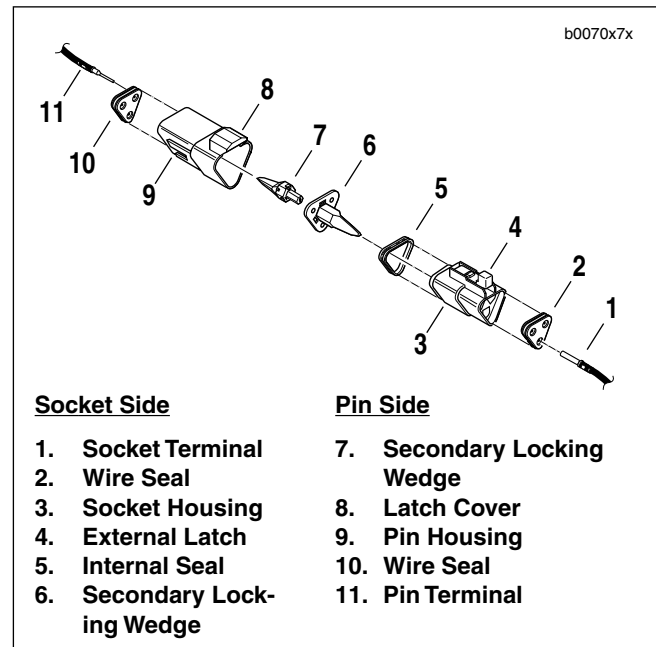

Figure 7-74. 3-Pin Connector
1. See Figure 7-74. Remove the secondary locking wedge (6). Insert the blade of a small screwdriver between the socket housing and locking wedge inline with the groove (inline with the pin holes if the groove is absent). Turn the screwdriver 90° to pop the wedge up.
2. Gently depress terminal latches inside socket housing (3) and back out socket terminals (1) through holes in rear wire seal (2).
3. Fit rear wire seal (2) into back of socket housing, if removed. Grasp socket terminal approximately 1.0 in. (25.4 mm) behind the contact barrel. Gently push sockets through holes in wire seal into their respective chambers. Feed socket into chamber until it "clicks" in place. Verify that socket will not back out of chamber; a slight tug on the wire will confirm that it is properly locked in place.
4. Install internal seal (5) on lip of socket housing, if removed. Insert tapered end of secondary locking wedge (6) into socket housing and press down until it snaps in place. The wedge fits into the center groove within the socket housing and holds the terminal latches tightly closed.
1. See Figure 7-74. Remove the secondary locking wedge (7). Use the hooked end of a stiff piece of mechanic's wire or a needle nose pliers, whichever is most suitable.
2. Gently depress terminal latches inside pin housing (9) and back out pin terminals (11) through holes in wire seal (10).
3. Fit wire seal (10) into back of pin housing (9). Grasp crimped pin approximately 1.0 in. (25.4 mm) behind the contact barrel. Gently push pins through holes in wire seal into their respective numbered locations. Feed pin into chamber until it "clicks" in place. Verify that pin will not back out of chamber; a slight tug on the wire will confirm that it is properly locked in place.
4. Insert tapered end of secondary locking wedge (7) into pin housing (9) and press down until it snaps in place. The wedge fits in the center groove within the pin housing and holds the terminal latches tightly closed.